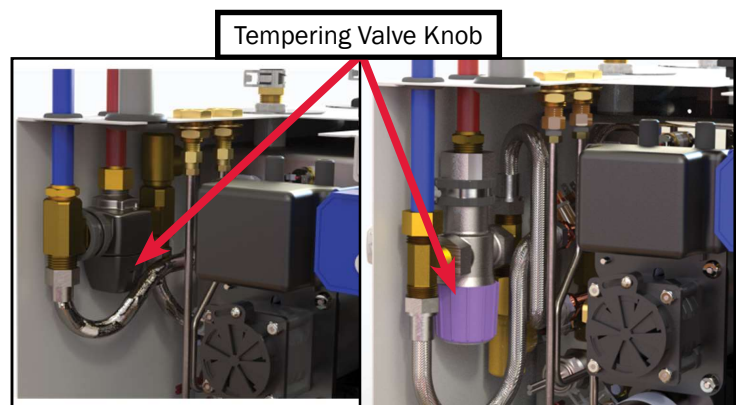

Figure 31
5. Test the tempering valve’s functionality by turning the knob (see Figure 31). If the knob does not rotate, this tempering valve will need to be replaced. On newer heaters, it will be necessary to remove a black plastic cap from the body of the tempering valve.